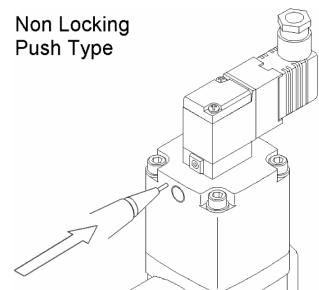
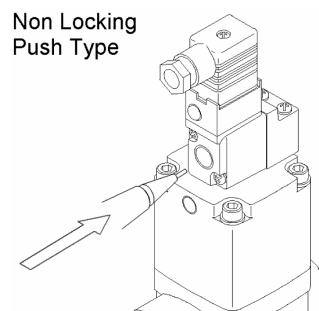

Fig. 3
Fig. 4
- Non-locking push type (see Fig. 3 and Fig. 4)